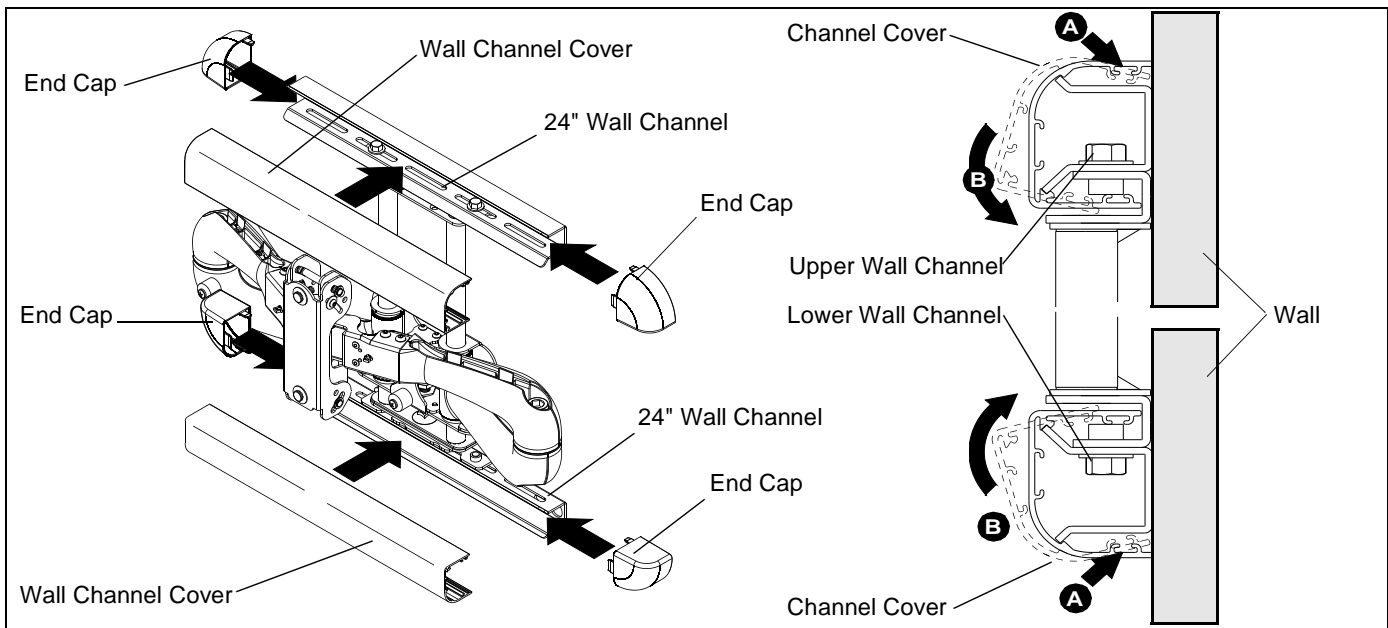

Figure 5: Install 24" Uppert and Lower Wall Channel Covers
4. Install 24" upper wall channel cover by tipping cover top down and positioning as shown in STEP A of figure 5 below.
5. Lower bottom of upper wall channel and tap firmly across bottom of channel to lock in place as shown in STEP B of figure 5 below.
6. Install R.H. and L.H. end caps by aligning tabs on end caps with slots in wall channel and sliding tabs into channel until end cap is flush with wall channel cover. (See Figure 5)